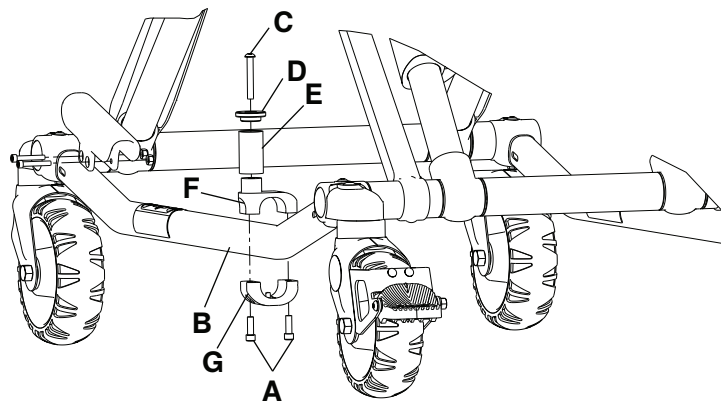

Figure 10 – Cot retaining post replacement
3. Using a T30 Torx driver, remove the two socket head cap screws (A) that secure the cot retaining post to the base tube (B) (Figure 10). Discard the screws and cot retaining post.
4. Insert the button head cap screw (C) through the retaining post cap (D) and post tube (E), and then into the top pin bracket (F) (Figure 10).
5. Using a 5/32" hex wrench, tighten the button head cap screw (C) to secure the retaining post cap (D) and post tube (E) to the top pin bracket (F) (Figure 10). Using a torque wrench, torque the screw to 100-140 in-lb.
6. Assemble the cot retaining post across the base tube. Align the holes of the brackets and insert two socket head cap screws (A) into the threaded holes of the bottom pin bracket (G) (Figure 10).